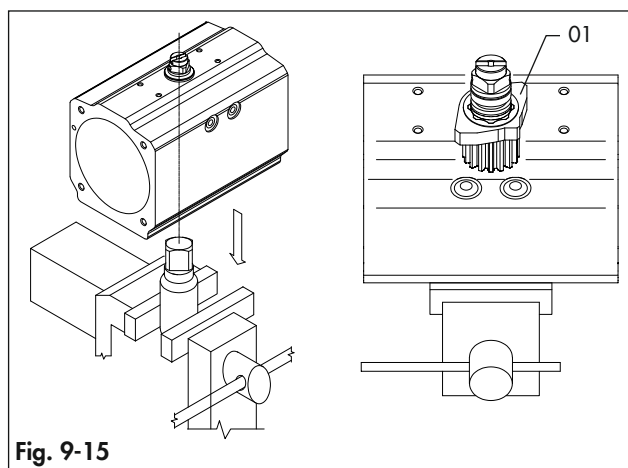

Fig. 9-15
- Lubricate and place onto the pistons (40) the o-rings (16), piston backs (05) and the head bearings (15).
- Lubricate the internal surface of the body (50) and the piston (40) rack teeth.
- Insert the female connection of the drive drive shaft (60.1) in a properly fixed coupling joint. (Fig. 9-15)
- Make sure that the octi-cam (01) is in the right position as per the Fig. 9-15.
- With the actuator in close position (0° position) referring to Fig. 9-15 for pistons position, screw or unscrew the right stop screw (02) 1 turn at a time until the desired stop position is achieved. In case of spring return actuator, a pneumatic supply may be necessary.